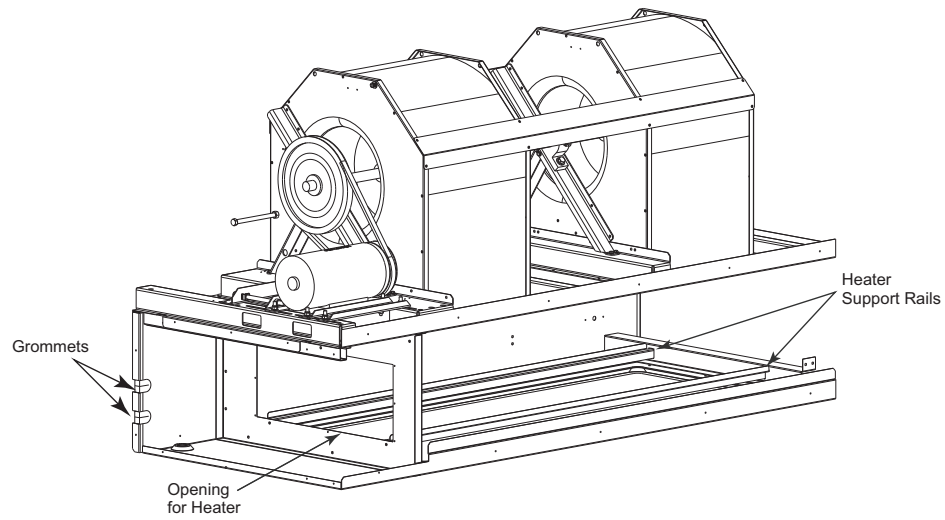

Fig. 3 - Opening for Electric Heater
end of heaters slide along support rails beneath fan deck. (See Fig. 3.)
6. Route heater power wires through grommets in vertical fan deck support. (See Fig. 3.) Continue routing wires under coil and filter support through the bottom notched section of the control box. Avoid sheet metal edges and any protruding screws.